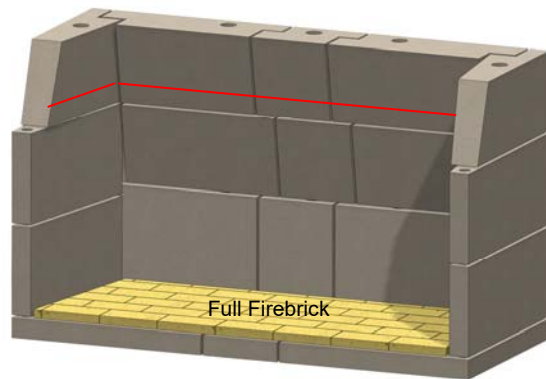

Figure 13. Firebrick Floor Installation
F. After installation of the back plates and sidewalls, install the firebrick inside the firebox, using full brick (2 1/2" thick) on the floor and split (1 1/4" thick) firebrick on the walls, with 1/8-inch mortar joints. Cover the floor with 1/8-inch high temperature cement and install the floor before other surfaces. On the side walls and back wall, lay the brick on its sides. Stack brick until it is 1 1/2" to 2" higher than the middle back plates (4A, 4B, 4C). The red line shown is an approximate guideline. See Figures 13, 14, and 15.